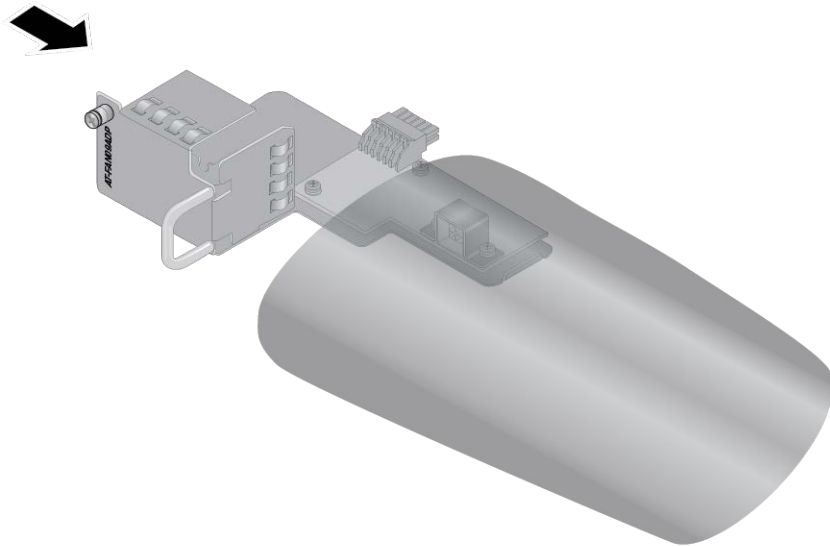

Figure 40. Storing the AT-FAN09ADP Module in an Anti-static Bag
13. Store the AT-FAN09ADP Module in an anti-static bag and place it in a safe location. Refer to Figure 40.